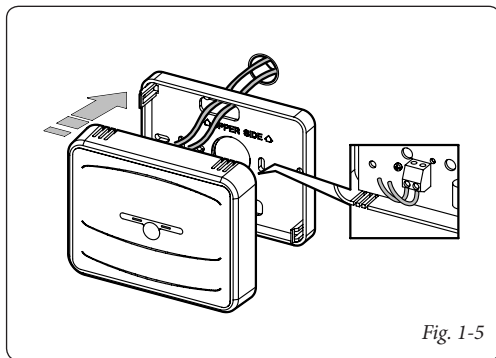

Fig. 1-5
The connection to the boiler is made using two wires (Fig. 1-5) with a minimum section of 0.50 mm² and maximum 1.5 mm² and with a maximum length of 50 metres.
- 4) Fasten the lid of the CAR^{V2} Base to the support bottom, engaging it using pressure (Fig. 1-5).